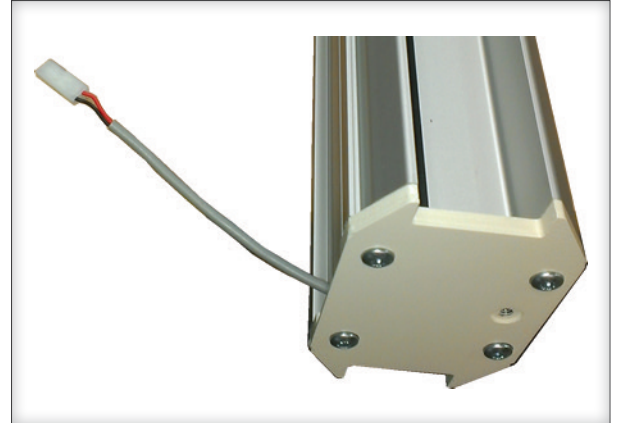

Figure 10-1
**19. Plug in the power supply.** The top and bottom of the rail each have a short wire and plug coming from the rail end. Plug the power supply into one of these plugs and plug the other end of the power supply into a wall outlet. You may use whichever end is a more convenient location to a wall outlet. [Figure 10-1]